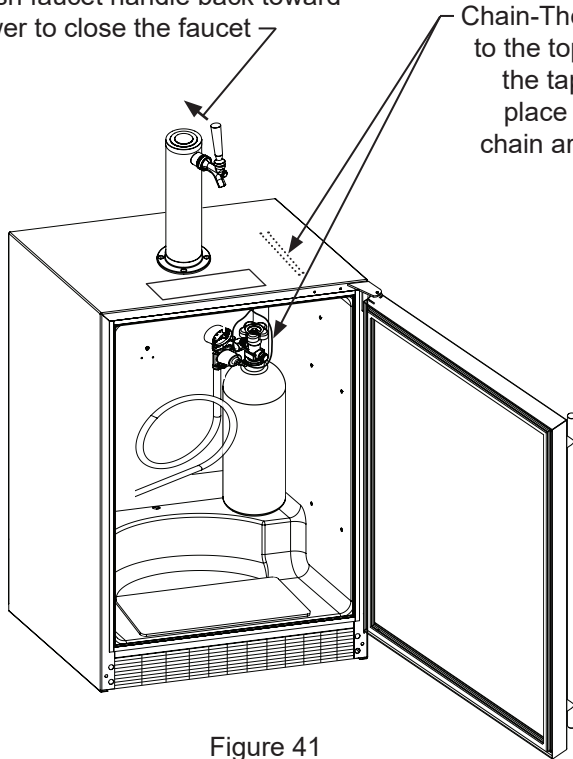

Figure 41
8. Locate the gas tank in the corner of the refrigerator as shown in Figure 41 and secure with the chain. Close the faucet handle on the tower.